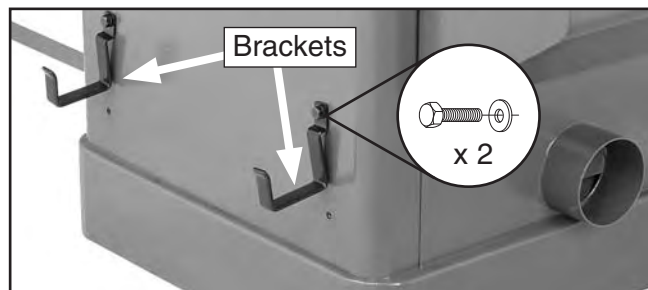

Figure 30. Fence resting brackets installed.
29. Install the fence resting brackets (**Figure 30**) onto the back of the cabinet with the two M8-1.25 x 12 hex bolts and 8mm flat washers.